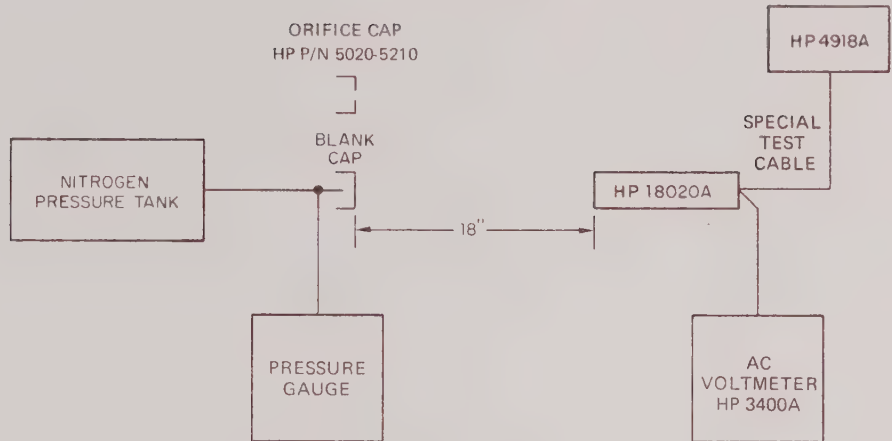

Figure 5-3. Sensitivity Check Test Setup
- b. Connect the nitrogen cylinder, pressure regulator, and blank cap as shown in figure 5-3.